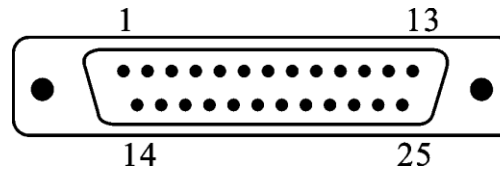

Fig.3-2
■ The DB-25-pin socket of parallel desktop is as Fig. 3-2 shows: